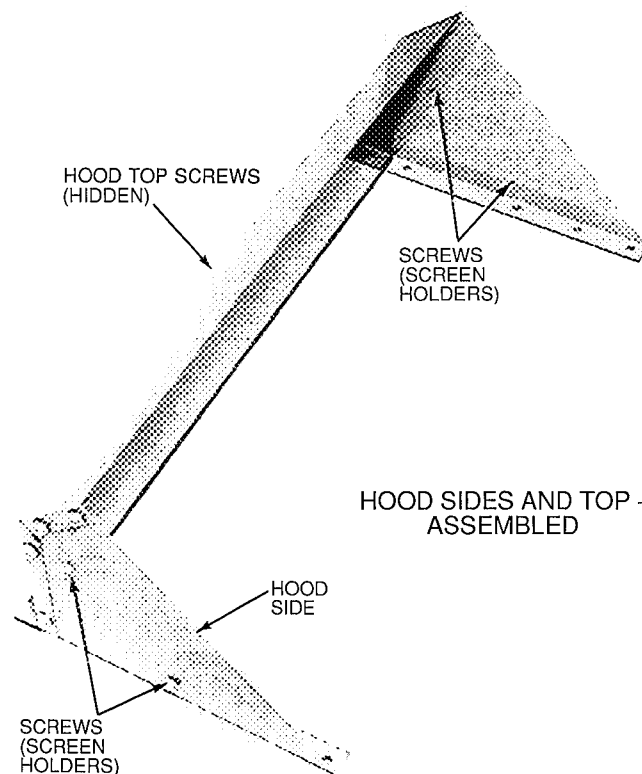
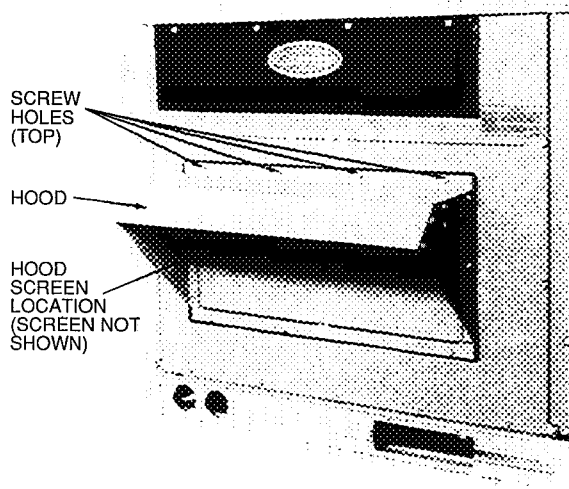

Fig. 14 — Outdoor-Air Hood Details
Fig. 15 — Outdoor-Air Damper with Hood Attached
5. Place hood on front of evaporator coil access panel. See Fig. 14 for hood details. Secure top of hood with the 4 screws removed in Step 3. See Fig. 15.
7. Align screw holes on hood with screw holes on side of manual outdoor-air damper. See Fig. 14 and 15. Secure hood with 6 screws from Step 6.
9. Remove and save screws currently on sides of hood. Insert screen. Secure screen to hood using the screws. See Fig. 15.